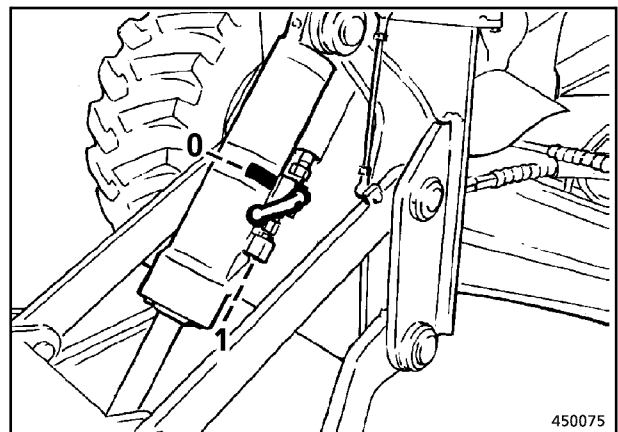

Fig. 8
- Set the shut-off valve of the front-blade cylinder to position 0 (Fig. 8).